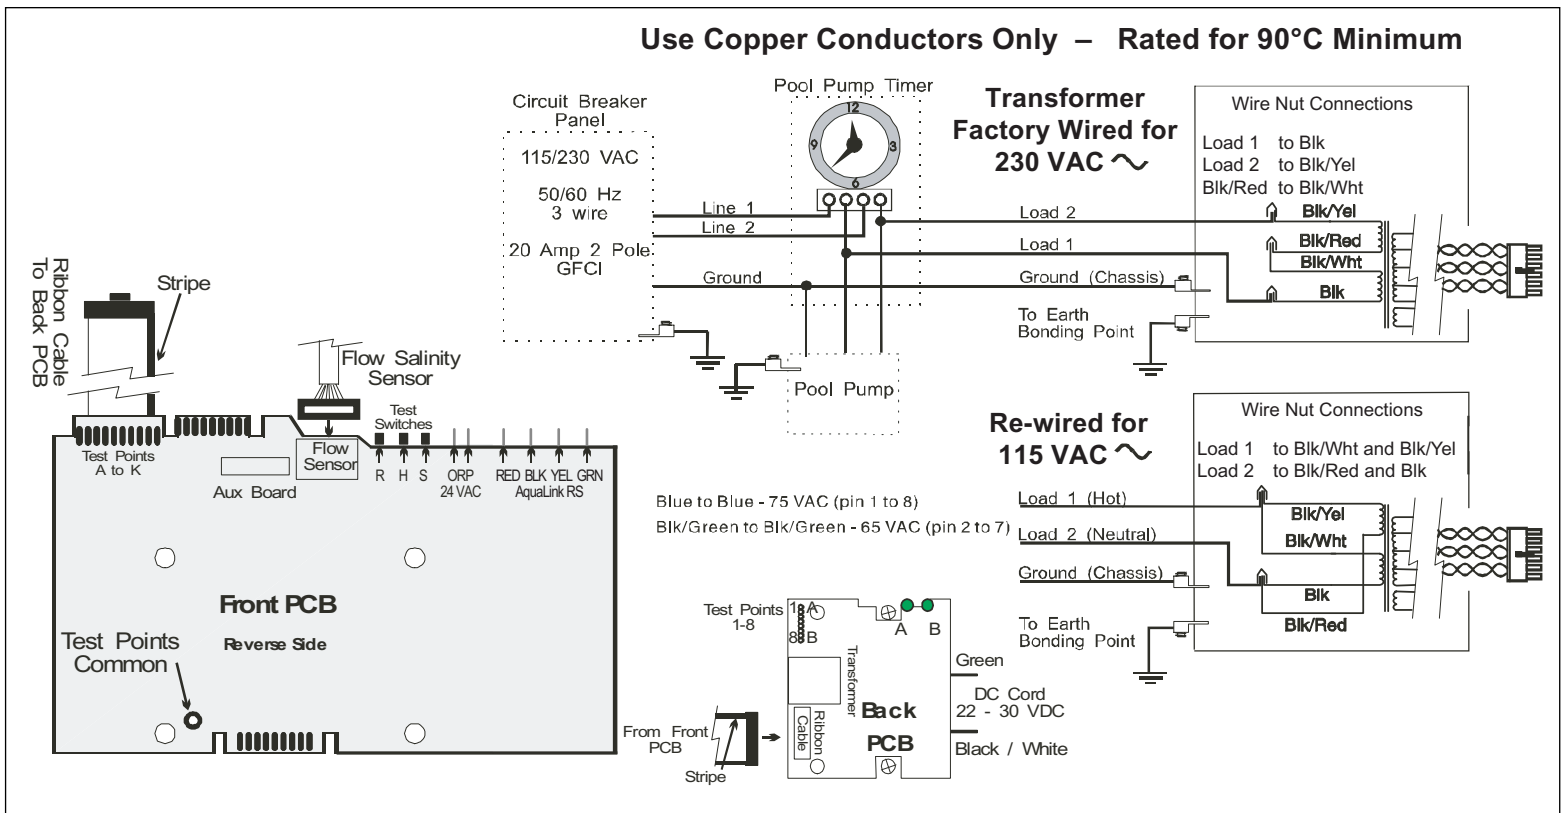

Figure 2. PURE700 and PURE1400
Factory wired for 230 VAC service. If available electrical service is 115 VAC, the power supply wiring must be changed to operate on 115 VAC as shown in the wiring diagram below. (Figure 2.)
6. Check source voltage. (All units are factory wired for 230 VAC). ***In order to use on 115 VAC, the internal factory wiring of the control center must be changed. (See wiring diagram page 6 Figure 2).***
7. Use #12/3 insulated wire and conduit. Wire control center transformer to pool pump power source. The control center should be connected to the pump motor switch or automatic timer (Pool Pump Timer) as shown in the diagram on page 6 Figure 2. ***The flow portion of the Flow/Temp/Salinity Sensor is a backup device only.*** Attach the third wire (**Ground**) from the electrical panel to the ground point inside the Control Center. ***Earth bonding in Section 3.4 must also be accomplished to insure personal safety and safety of equipment.***
9. Feed the connector end of the Flow/Temp/Salinity Sensor cable through the DC cord strain relief fitting located in the bottom of the control center chassis backplate. **Be certain the connector is clean and dry**, then plug the cable into the connector on the control center Printed Circuit Board as shown on page 6 Figure 2. **(Do not pull Flow/Temp/Salinity Sensor cable too tight, allow a little slack).**
11. Connect the DC cord to the Control Center. Feed the DC cord through the same strain relief fitting as the Flow/Temp/Salinity Sensor. Plug the DC cord into the two push-on connectors located on the control center Printed Circuit Board as shown in Figure 2 on page 6.
14. Plug the ribbon cable attached to the front cover PC board into Printed Circuit Board mounted on the backplate (See page 6 Figure 2). Now reattach the control center front cover to the backplate.